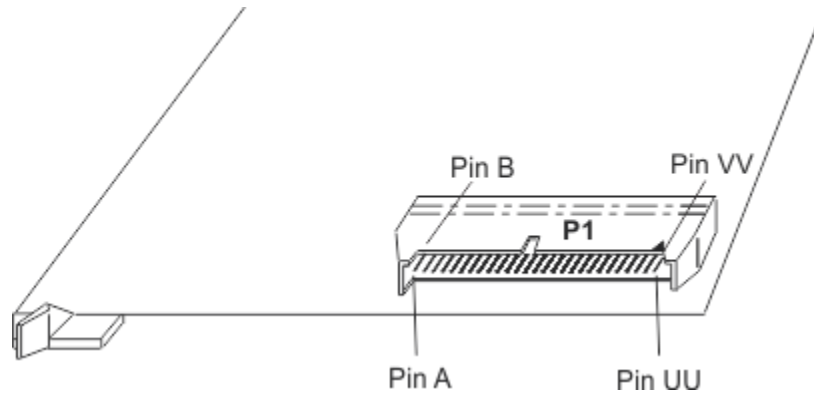

Figure 1-5: DCQ-2500 I/O Connector
- Figure 1-5: DCQ-2500 I/O Connector 7
Cable the DCQ-2500 controller to the panel. Align the triangle on the cable connector with the triangle of the panel connector. See Figure 1-5.